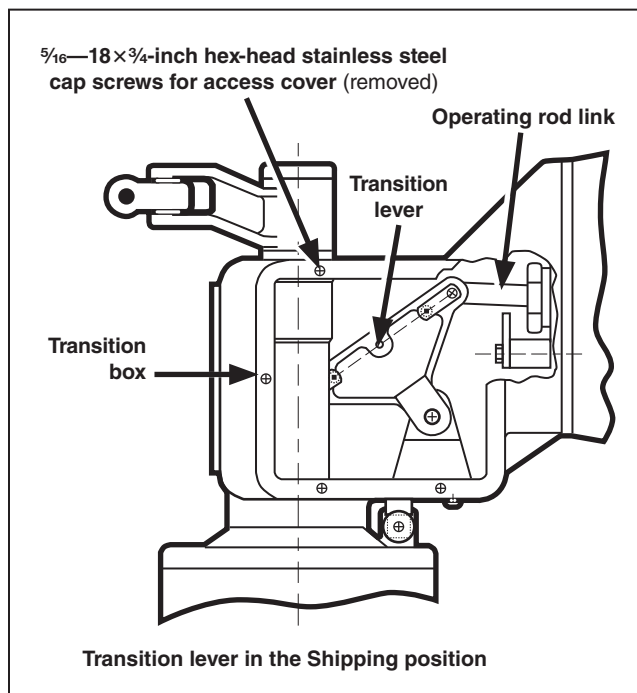
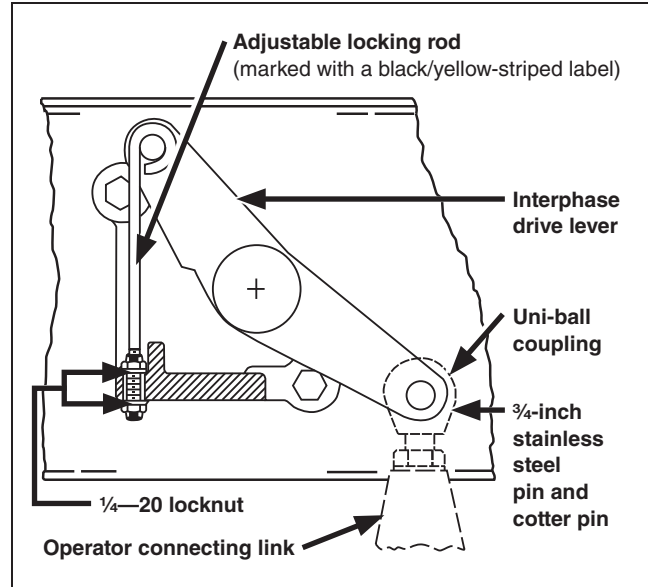
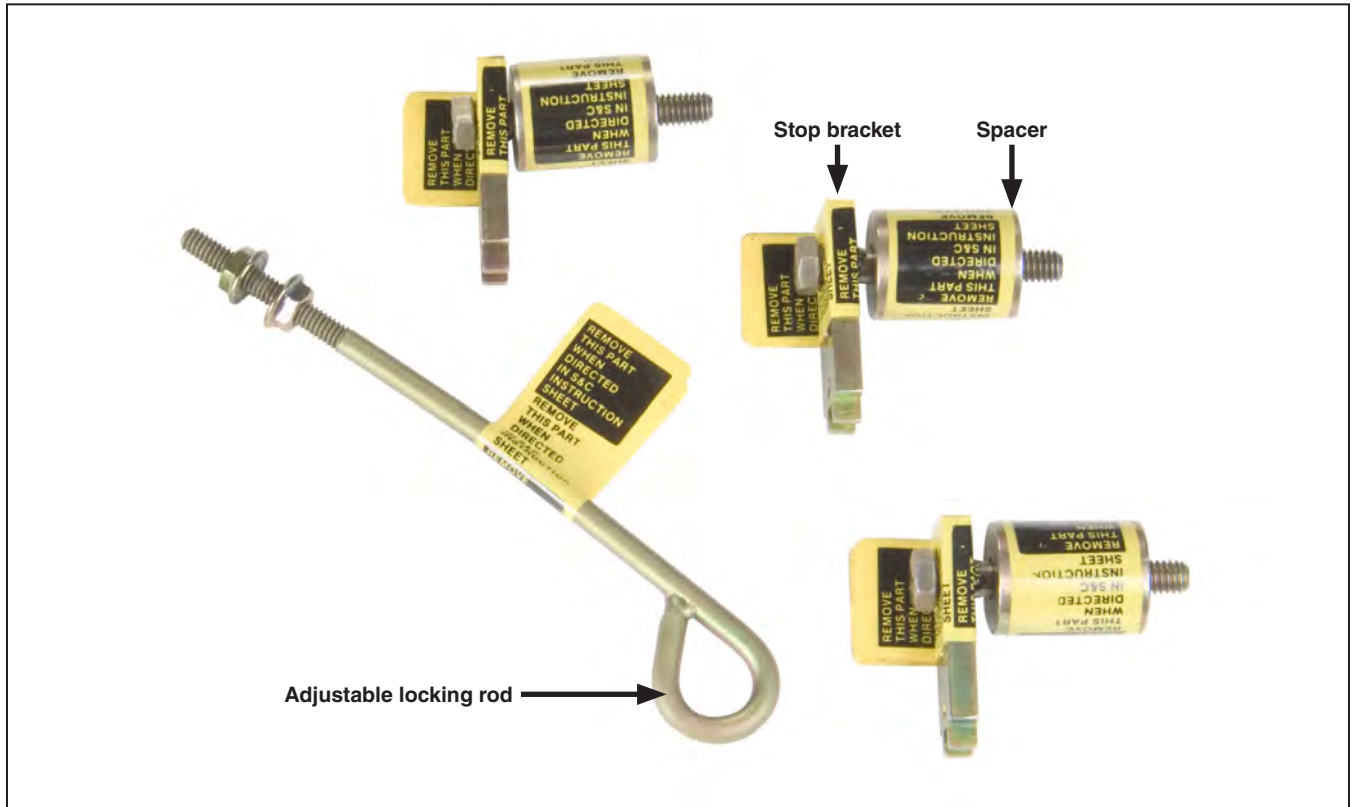

Figure 12. Preparing the insulated operating rod for attachment.
Figure 15. Attaching connecting link to interphase drive lever.
Figure 26. Check the transition box and high-speed base for these shipping parts.
- (a) Remove the six $\frac{5}{16}$ —18 \times $\frac{3}{4}$ -inch hex-head stainless steel cap screws used to attach the access cover to the side of the transition box. See Figure 12. Remove the cover and place it and the hardware on a clean surface.
STEP 1. Attach the uni-ball coupling on the operator connecting link to the interphase drive lever in the high-speed base using the $\frac{3}{4}$ -inch stainless steel pin and cotter pin retained from Step 1 on page 14. See Figure 15. An adjustable locking rod (marked with a black/yellow striped label) is furnished, factory-connected to the interphase drive lever; turn the associated $\frac{1}{4}$ -inch—20 locknuts as required to raise or lower the interphase drive lever and thus facilitate insertion of the stainless steel pin.
STEP 2. Remove the lower $\frac{1}{4}$ -inch—20 locknut that retains the adjustable locking rod. Then, remove and discard the adjustable locking rod and locknuts. See Figure 15.
- The interrupter stop bracket and spacer have been removed. See Figure 12 on page 20 and Figure 26.
- The interphase drive lever has been connected to the operator uni-ball coupling. See Figure 15 on page 22.
- The adjustable locking rod attached to the interphase drive lever has been removed. See Figure 15 on page 22 and Figure 26.